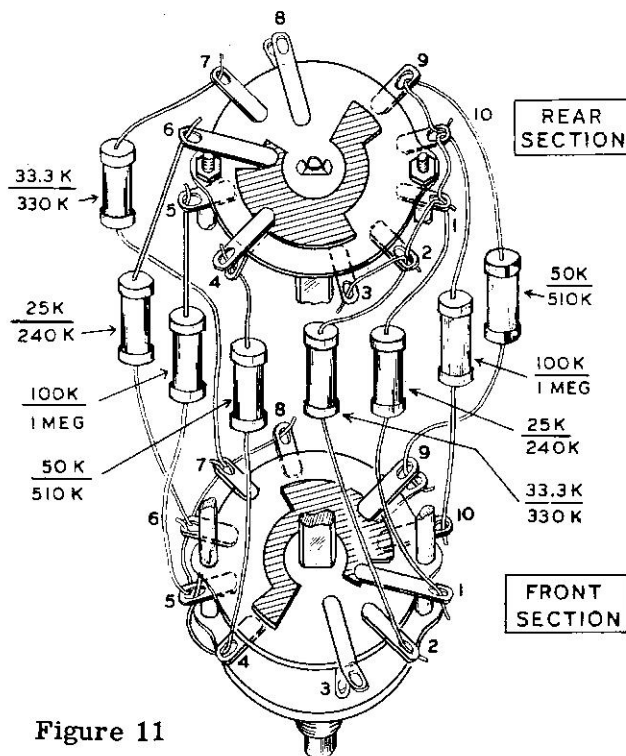

Figure 11
- ( ) ( ) Locate switch #63-108 and position it as shown in Figure 11.
- ( ) ( ) Connect a 50 K $\Omega$  precision resistor between lug 9 (S) (double clip) on the front section and through lug 9 (S) to lug 10 (NS) on the rear section.
- ( ) ( ) Connect a 100 K $\Omega$  precision resistor between lug 10 (S) on the front section, through lug 10 (S) (2) to lug 1 (NS) on the rear section.
- ( ) ( ) Connect a 25 K $\Omega$  precision resistor between lug 1 (S) on the front section, through lug 1 (S) (2) to lug 2 (NS) on the rear section.
- ( ) ( ) Connect a 33.3 K $\Omega$  precision resistor between lug 2 (S) on the front section, through lug 2 (S) (2) to lug 3 (NS) on the rear section.
- ( ) ( ) Connect a 50 K $\Omega$  precision resistor between lug 4 (S) (double clip) on the rear section, through lug 4 (S) to lug 5 (NS) on the front section.